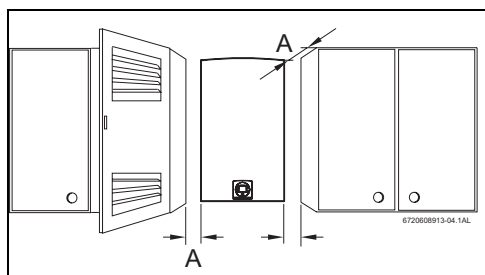

Fig. 21 Minimum distances
- ▶ Respect the minimum installation measurements indicated in Fig. 21 .
- ▶ Ensure adequate access for maintenance work, respecting the minimum distances indicated in Fig. 21 .